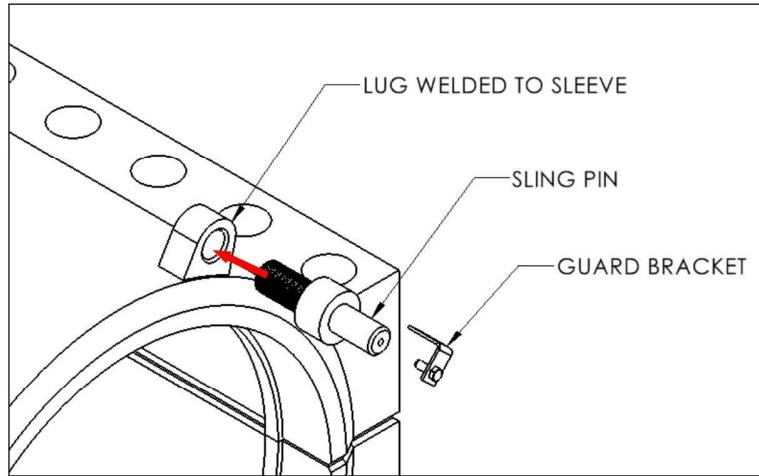

Figure 2
5. Thread the 4 sling pins into the lugs welded on the ends of the Split+Sleeve as shown in Figures 2 & 3. It is easier to install the "L" shaped guard brackets after the sling is placed over the pins.